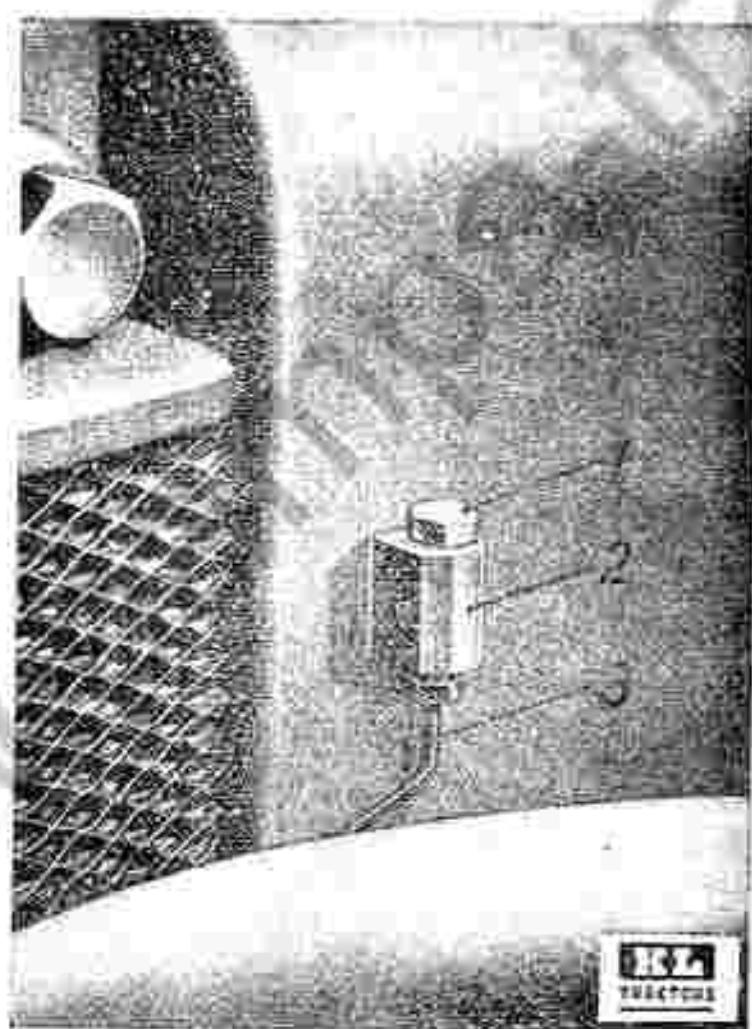

Fig. 57. Socket for flushing the cylinder with kerosene.
FLUSHING SOCKET - Immediately after stopping the engine for night, place the piston in rear dead centre with key in crankshaft showing up, pour a little kerosene into the cylinder flushing socket (2), Fig. 57, after removing the plug, allow the kerosene to draw into the cylinder, then move piston backward and forward. This prevents the oil in the cylinder from congealing and makes the engine easy to turn when next required. Leave the crankshaft key showing up. Before restarting, prime with oil.
SEIZING OF PISTON - If the piston happens to seize due to gumminess, pour a little kerosene into the cylinder through the flushing socket, Fig. 57, then after a few minutes, it will be possible to move the flywheel, although with difficulty at first, until finally it moves freely. Just before restarting the engine, pump some lubricating oil by the mechanical lubricator to ensure the piston being amply lubricated from the start.